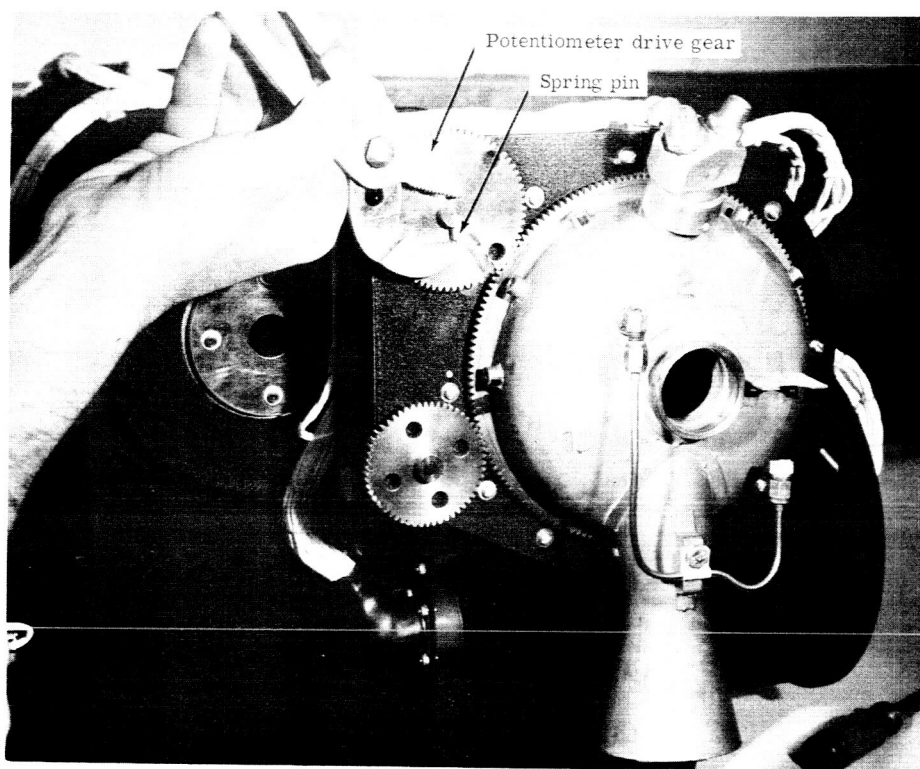

Figure 2-11. Installation of feedback potentiometer gear and pin.
- d. Align index marks on shaft and hub and install the gear (EX-66668) on potentiometer shaft. Press roll pin (6823315-6) into the hub with pliers as shown in Figure 2-11.